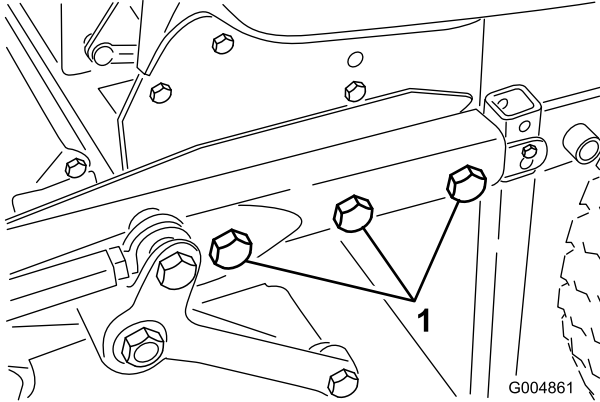

Figure 39
11. Carefully remove the bolts (3/4 inch), washers and nuts that secure the deck frame to the rear frame (3 on the left side and 2 on the right side) (Figure 39).